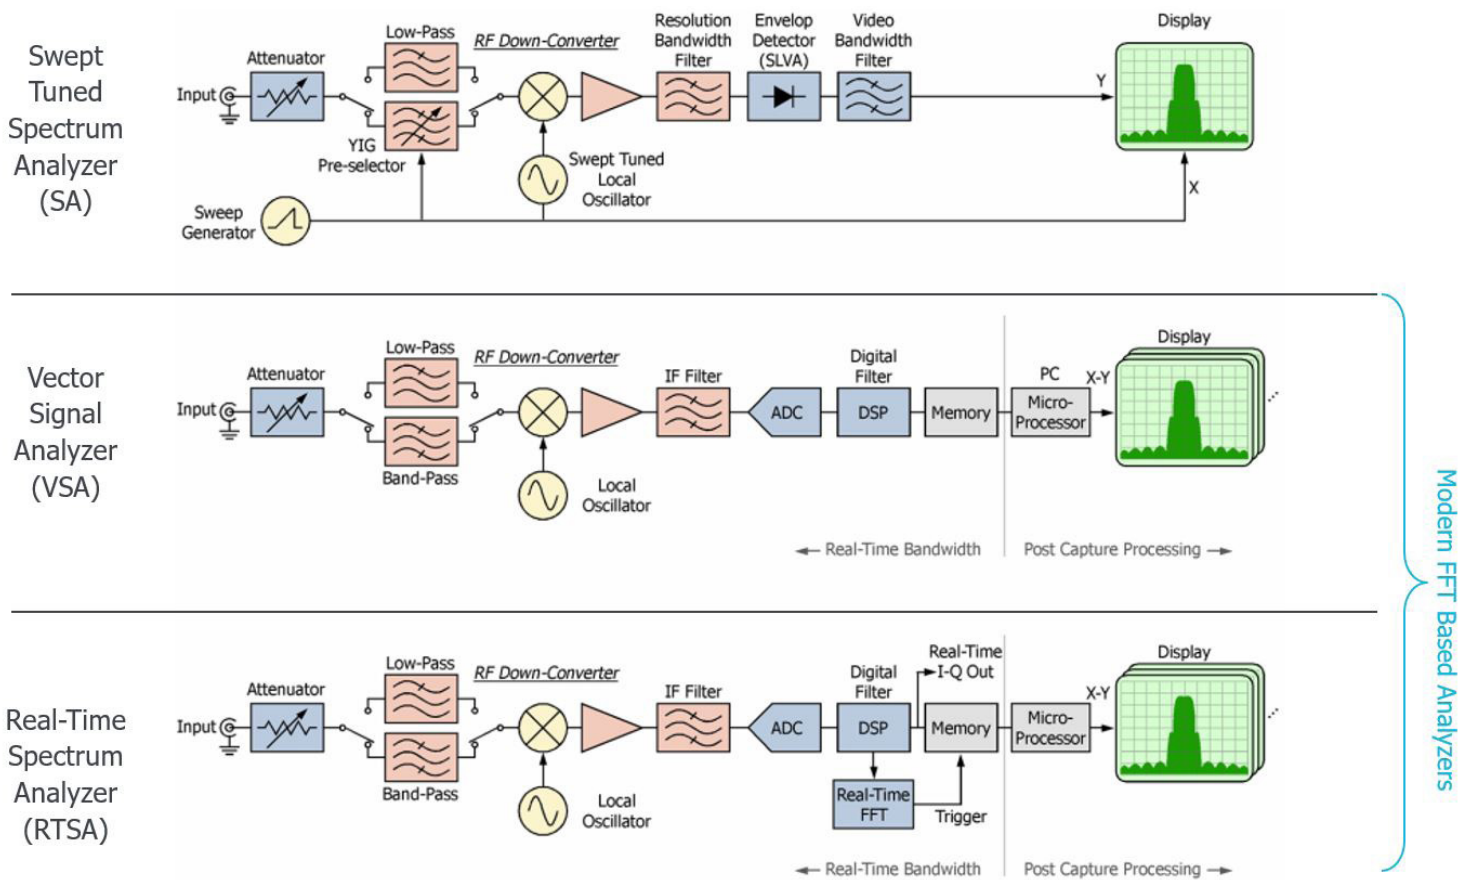

Figure 7. Alternate instrumentation block diagrams.
Figure 7 puts it all into context. All architecture use a super heterodyne process to convert high frequency signals to a lower frequency for analysis. The swept spectrum analyzer essentially only measures the power in a filter (Resolution Bandwidth Filter) at a specific frequency point derived from the frequency of the Local Oscillator (LO). It can display a range of power vs frequency by 'sweeping' the LO and the x-axis of display. This allows for very broad frequency displays with excellent dynamic range, but the time domain acquisition bandwidth is limited to that of the resolution bandwidth filter. A Vector Signal Analyzer uses a fixed local oscillator, with a much larger IF filter (instead of the RBW filter bank). This allows us to acquire large amounts of time domain data,